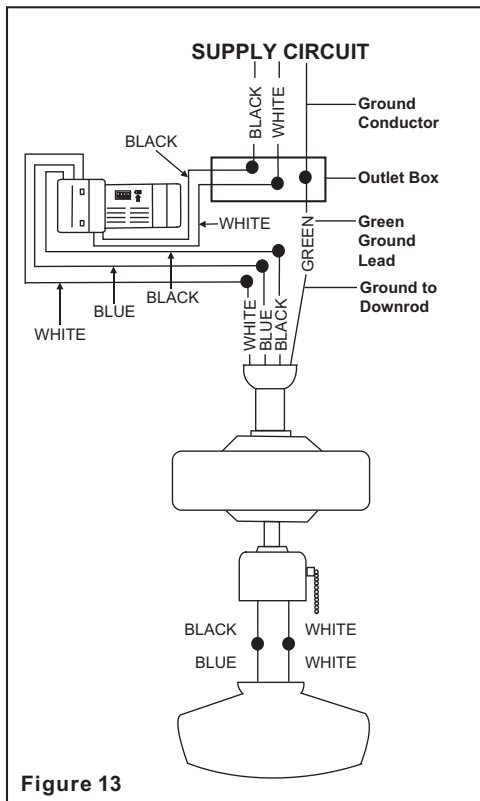

Figure 13
**Step 2.** (Fig. 13) Motor to Receiver Electrical Connections: Connect the Black wire from the fan to Black wire marked "TO MOTOR L". Connect the White wire from the fan to the White wire marked "TO MOTOR N" from the receiver. Connect the Blue wire from the fan to the Blue wire marked "For Light" from the receiver. Secure wire connections with the plastic wire nuts provided.
**Step 3.** (Figure 13) Receiver to House Supply Wires Electrical Connections: Connect the black (hot) wire from the ceiling to the black wire marked "AC in L" from the receiver. Connect the white (neutral) wire from the ceiling to the white wire marked "AC in N" from the Receiver. Secure the wire connections with the plastic wire nuts provided.
**Step 4.** (Figure 13) If your outlet box has a ground wire (green or bare copper) connect it to the fan ground wires; otherwise connect the hanging bracket ground wire to the mounting bracket. Secure the wire connection with a plastic nut provided. After connecting the wires spread them apart so that the green and white wires are on one side of the outlet box and black and blue wires are on the other side. Carefully tuck the wire connections up into the outlet box.